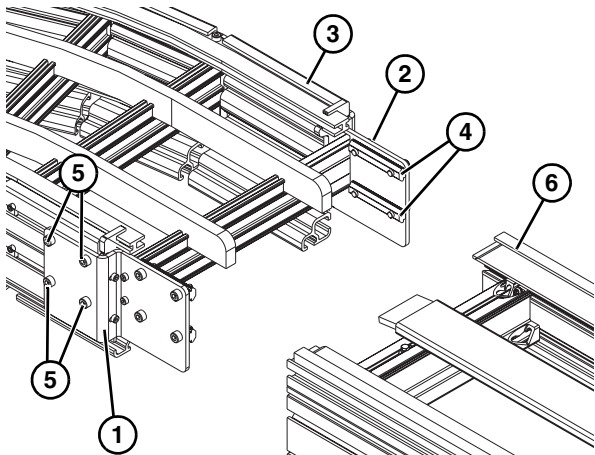

Figure 7
Typical Curve Connecting Components (Figure 7)
1. For joining curved to straight sections, install left offset connecting plate (Figure 7, item 1) and right connecting plate (Figure 7, item 2) onto curved section (Figure 7, item 3) with two drop-in tee bars (Figure 7, item 4) and four M6x16 socket head screws (Figure 7, item 5), making sure the straight frame section is flush to the curve section crossmember.
2. Secure straight section (Figure 7, item 6) onto curved section with the same hardware as previous step. Tighten all socket head screws to 60 in-lb (7 Nm).